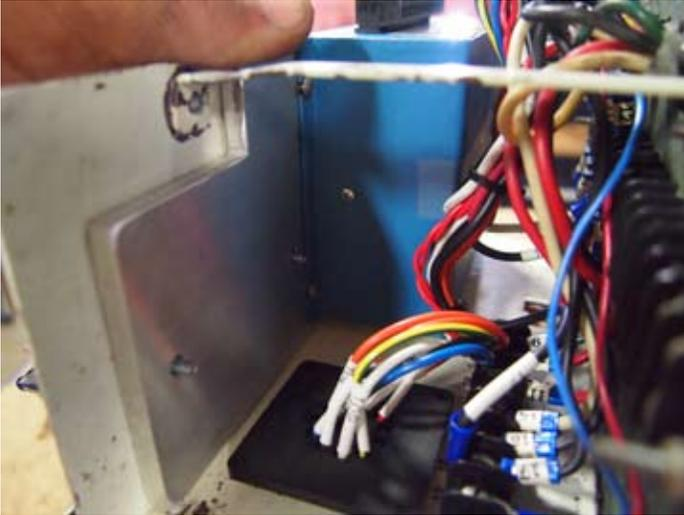
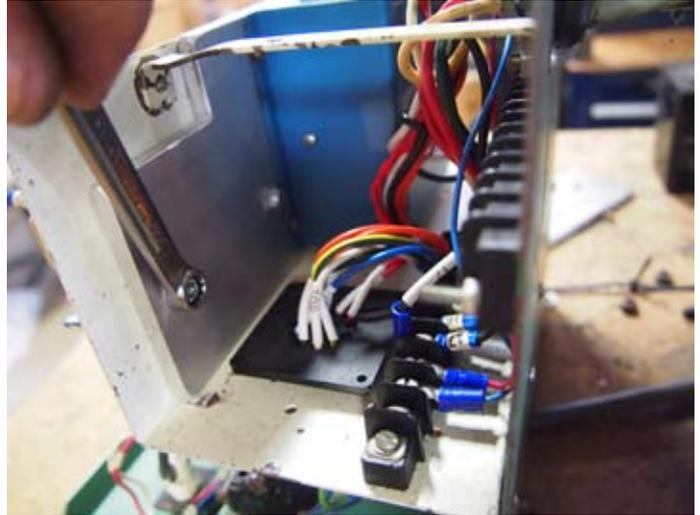

Figure 15
Figure 16
Step 6: Install mounting bracket into box so that the longer screws go through it (Figure 15). Install and tighten nuts to hold bracket in place. (Figure 16). Put the control box back into the cover and install the screws. Run the **Daily Checkout** to make sure everything is correct.